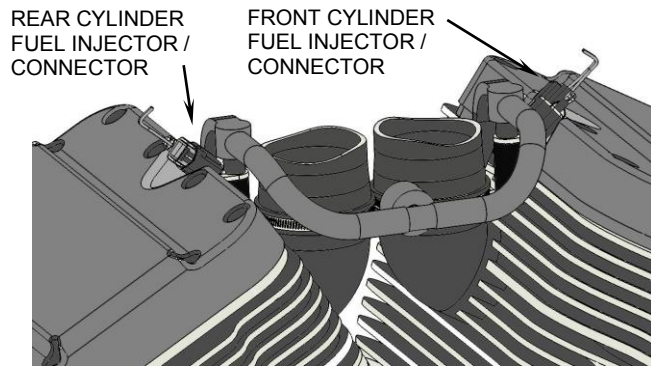
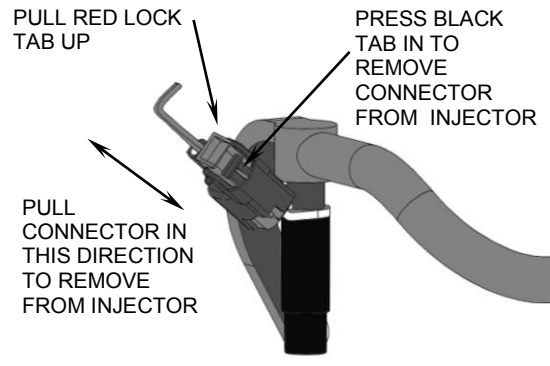

FIGURE 3
FIGURE 4
6. Locate the rear fuel injector connector between engine heads, from right side of motorcycle, see Figure 3. Pull the "RED" pull tab up towards the top portion of the connector, assistance will be needed to prevent the injector from rotating during this procedure, see Figure 4. Once the Red tab is pulled upward, push in on the black tab below it, see Figure 4 & 5. While pushing in on black tab, pull entire connector upward and remove from injector. It may be necessary to snip the zip tie from the injector wires to the fuel rail, to allow adequate wire length to free connector from injector. Pull injector connector outward towards right side of motorcycle, for installation of Powrpro Tuner™ (PPT) connectors later in instructions.
7. Repeat injector connector removal procedures for front connector, noting that "RED" pull tab is accessed from left side of motorcycle, see Figure 4 & 5. Once connector is removed from front injector, be sure to pull it outward towards right side of motorcycle.